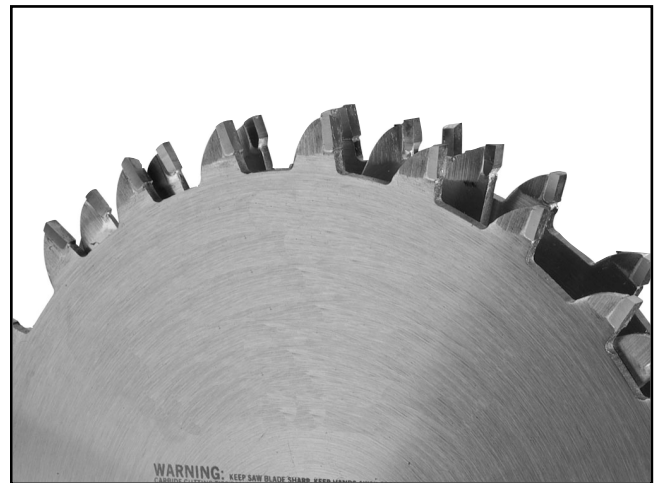

Figure 43. Stacked dado blade.
- **Stacked Dado Blade**—These dedicated dado cutting blades consist of a set of up to 8 individual blades. Multiple cutters are "stacked" between two outside blades. The width of the dado is determined by the combination of cutters that are "stacked" together. The dado is cut in a single pass leaving a smooth and square channel in the face of the workpiece. Stacked dado blades are the most expensive option but are worth considering if your projects require a lot of visible dado cuts. A typical stacked dado blade is shown in **Figure 43**.